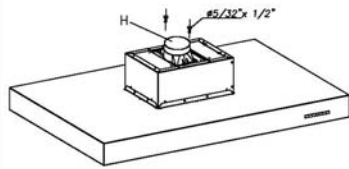

Fig. 1
- Use the two screws to attach the reducer pipe H to the upper platen (Fig. 1). Connect the 6" non-flammable pipe to the opening in the ceiling.